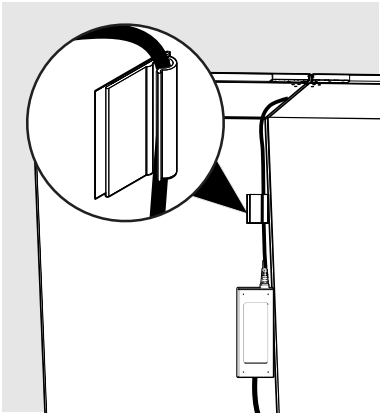

Fig. 5
8. If the power supply cannot be placed on top of the unit, adhere it vertically on the back wall of the unit and make sure the connection of the 3-prong connector to the power supply is facing down (Fig. 5).